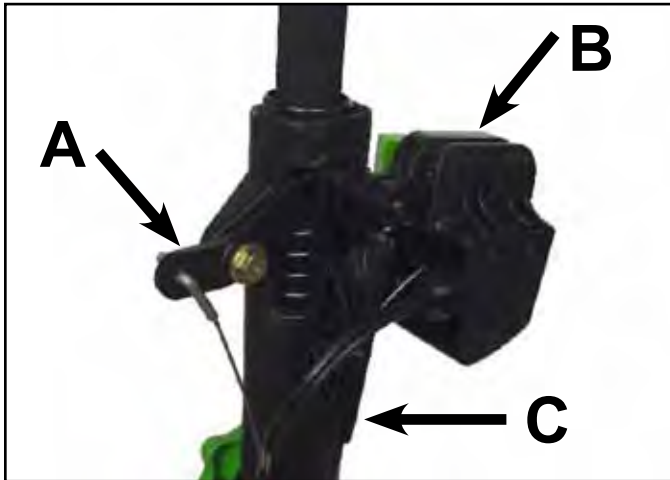

Fig 287
- Slide the pivot assembly, bail and the brake cable to the right until the bail slides off the pin (Fig. 287).